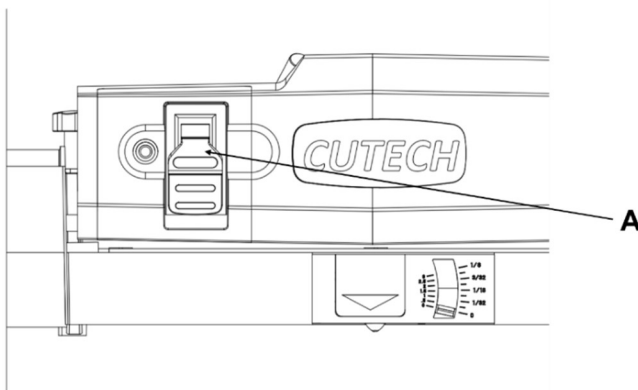

FIG 10
The planer is turned on by flipping the switch into the up position and it is turned off by flipping the switch in the down position. This planer is also equipped with a special lockout toggle switch that prevents unauthorized use. To prevent unauthorized use of the planer, simply pull out the yellow key (A) located on the face of the switch. SEE FIG 10.